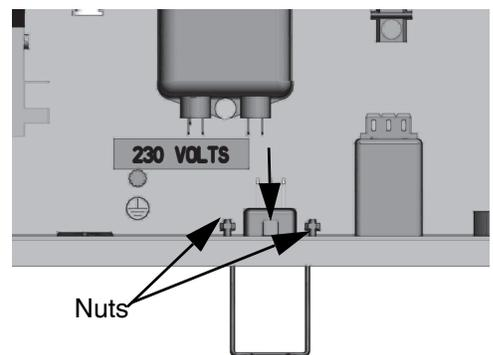

Figure 65.
11. Disconnect the wires connected to receptacle connector and remove the nuts on clip, Pull it outward direction as shown in Figure 65..